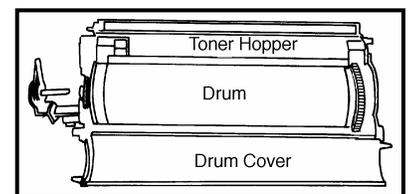

Figure 5
8. Remove the OPC drum. Move the drum cover towards you to expose the drum and slide the drum to the left and lift out (Fig. 5). Clean, inspect, and lubricate the drum and store in a dark place. Replace if necessary, if replacement is required, then perform the following to remove the OEM gears: